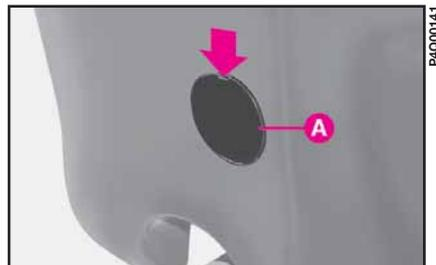

fig. 48
4) Remove the flap **A-fig. 48** on the rear bumper levering with a screwdriver in the point shown by the arrow and fasten the ring fully **B-fig. 49** on the threaded pin which appears when the cover is removed .